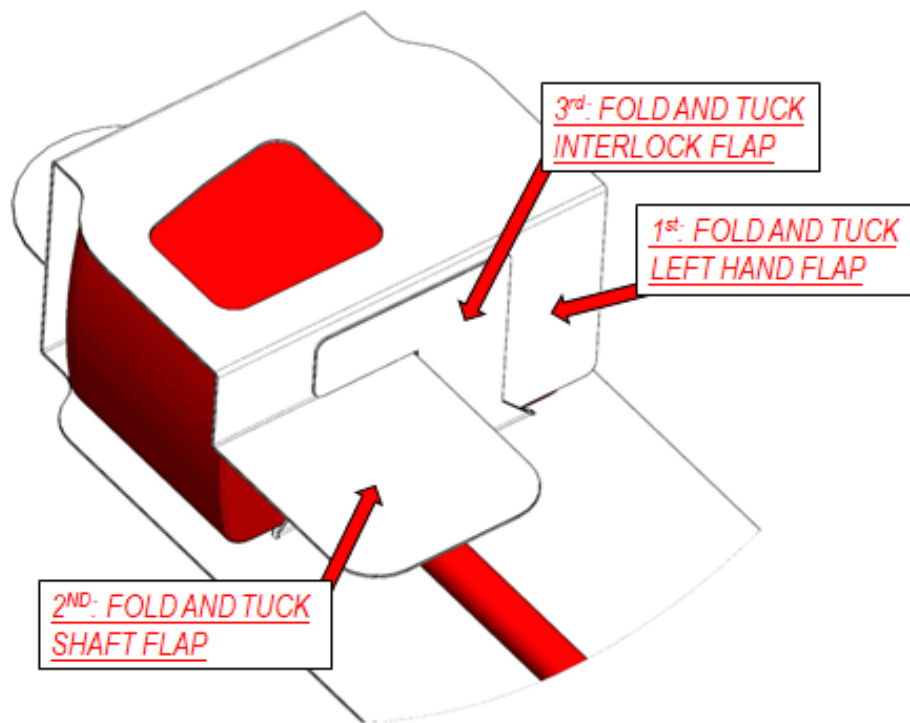

Figure 4: Tuck Robotic Instrument Head into Left Side Folds.
4. Tuck Robotic Instrument Head into Left Side Folds of Robotic Arm Sterilization Card (figure 4).